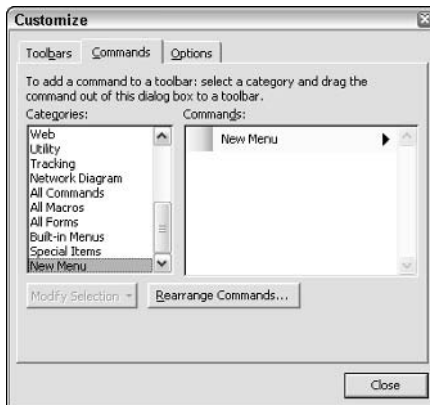

Figure 23-29: The New Menu category has only one command in it.
4. Scroll to the bottom of the list of Categories and click the New Menu category. The single selection, New Menu, appears in the list of commands, as shown in Figure 23-29.